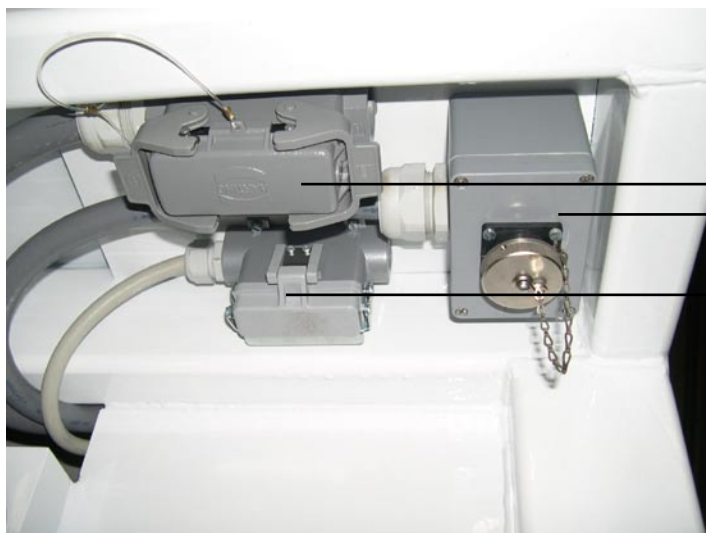

Fig. 1.03
2. Connect C32 (property client) (fig. 1.03 nr. 2).
3. Connect control lever (fig. 1.03 nr. 3).